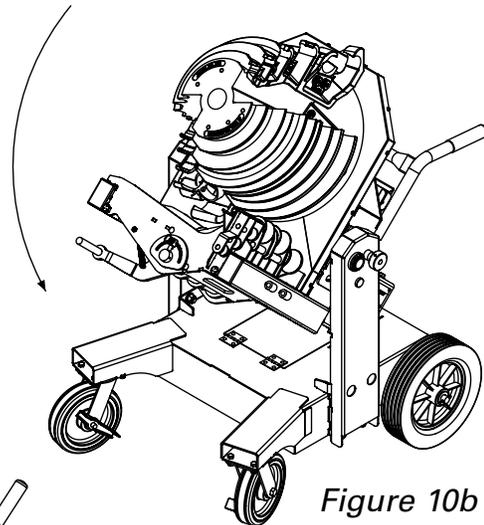

Figure 10b
2. Lift the handles of the bender power unit and rotate until the bender power unit is in the vertical position. (See Figure 10b).